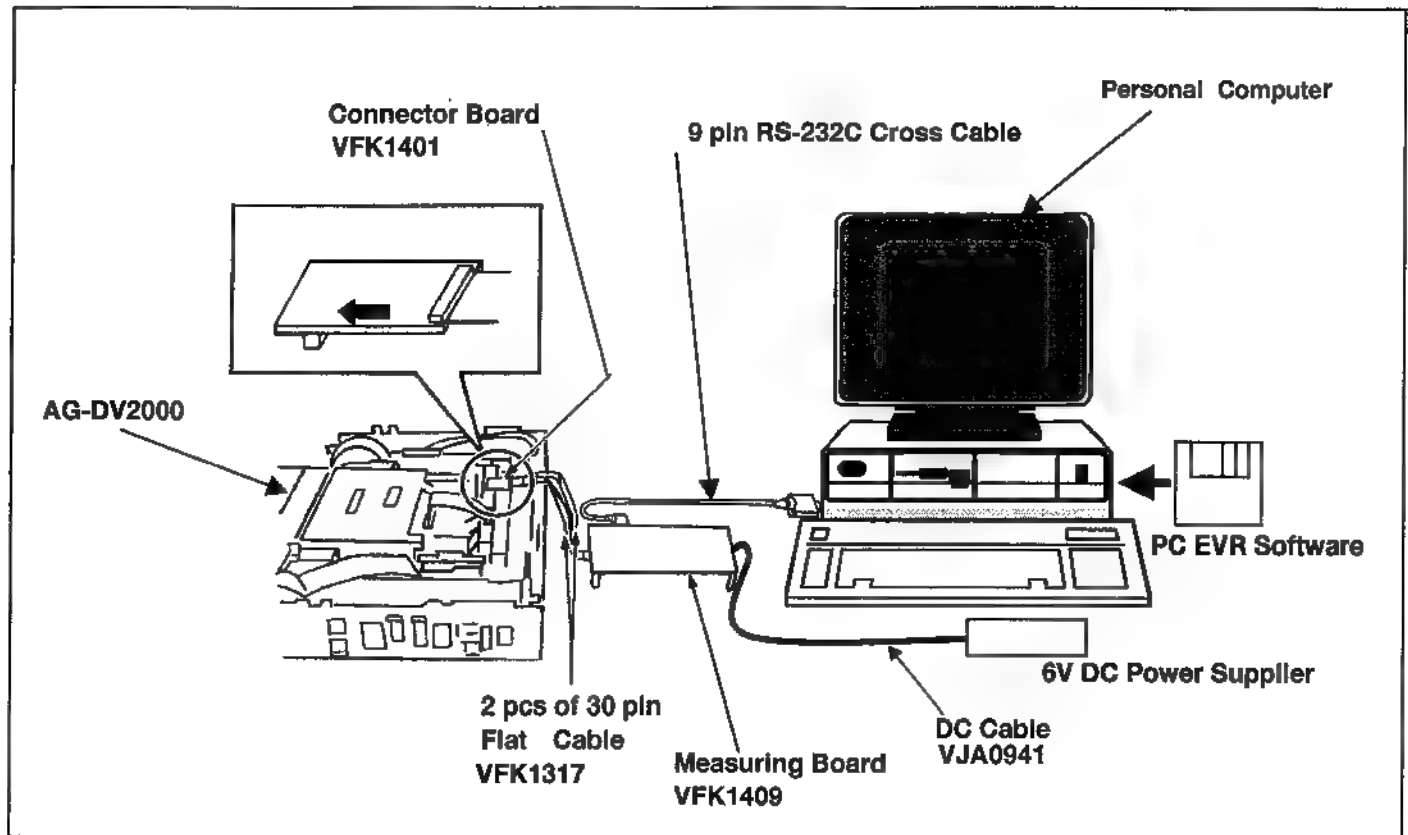

Fig. 2-7
Figure 2-7 shows the overall system connection of the PC EVR System.
3. Connect a 9pin RS-232C cable between the Measuring Board and RS-232C connector on the Personal Computer as shown in figure 2-7.